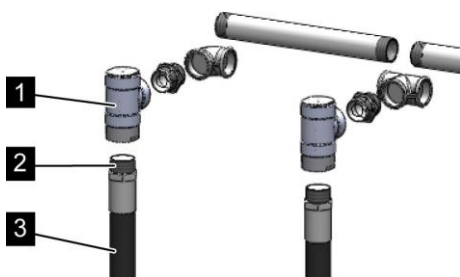

Fig. 56: Mounting the hose
1. ➤ Wrap G2 thread (Fig. 56/2) with a suitable sealant (e.g. Teflon tape).
2. ➤ Screw fasten and carefully align DN40/DN50 (1 1/2" and 2" hose Fig. 56/3) to the nozzle pipeline, the manifold, and the check valve (Fig. 56/1).